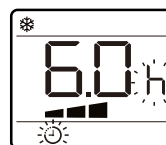

fig 5
- When the appliance is running, press the  button, the screen will display hours, and the  symbol and  symbol are flashing.(fig 5)